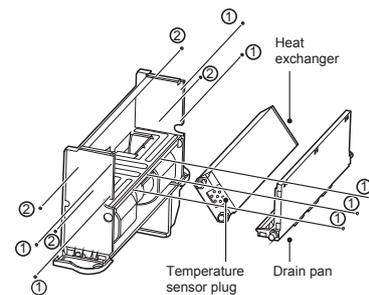

Figure 4-8 Removal of drain pan and heat exchanger
- g) As shown in Figure 4-8, remove screws ① *7 to take the drain pan out. Then, remove screws ② *4 to take the heat exchanger out.